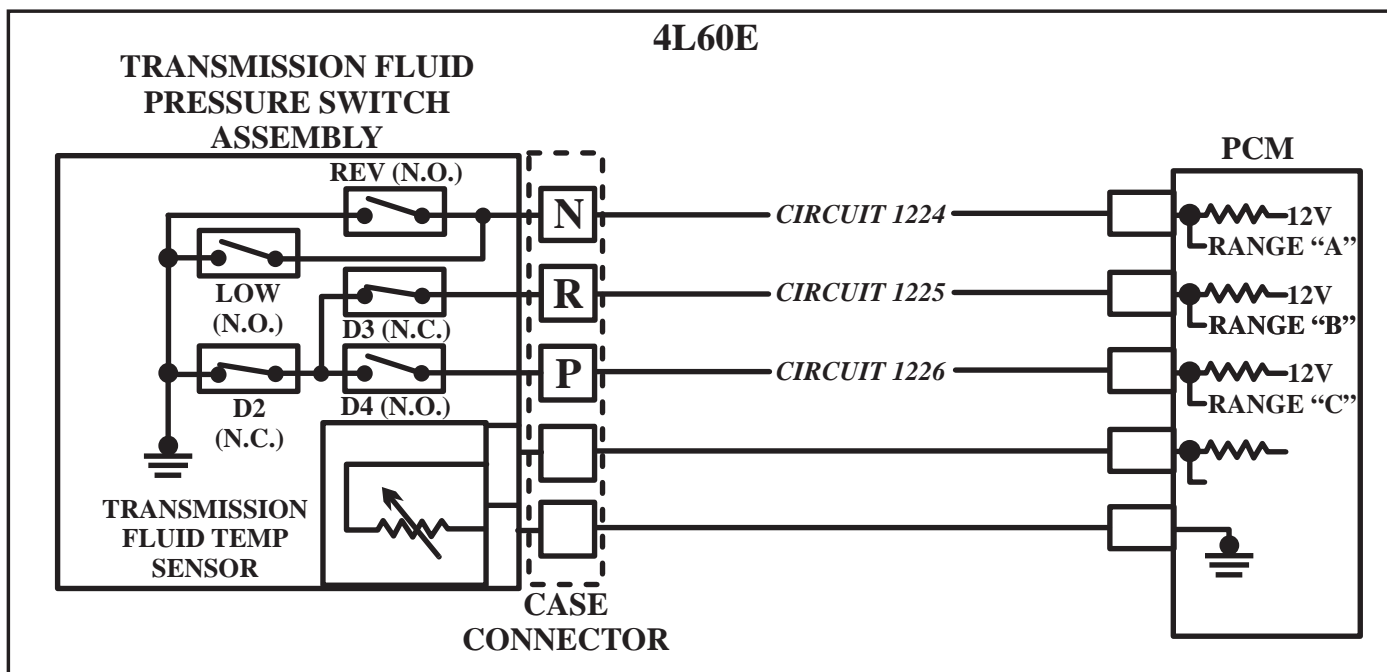
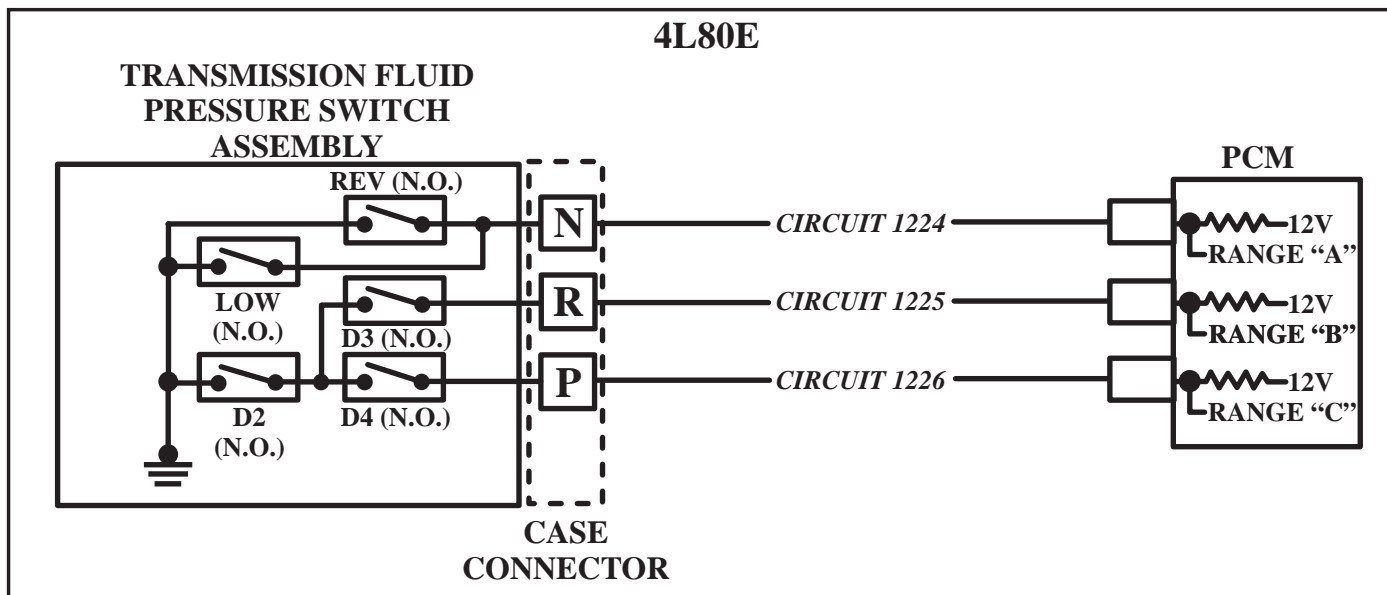

Figure 80
Figure 81
- TFP Switch Circuit 1224 is open or shorted, (See Figure 80 for 4L60E or Figure 81 for 4L80E)
- TFP Switch Circuit 1225 is open or shorted, (See Figure 80 for 4L60E or Figure 81 for 4L80E)
- TFP Switch Circuit 1226 is shorted or open, (See Figure 80 for 4L60E or Figure 81 for 4L80E)